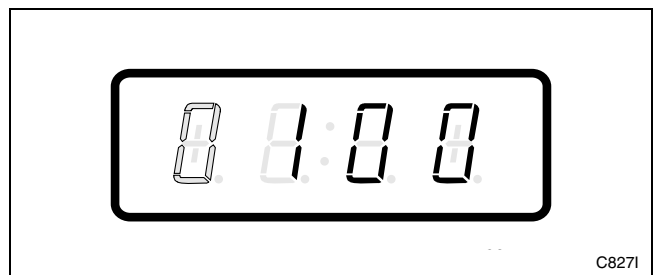

Figure 42
6. Press the START (enter) keypad to enter the fifth digit and display the remaining four digits. The active digit will flash one second on and one second off. Refer to *Figure 42*.